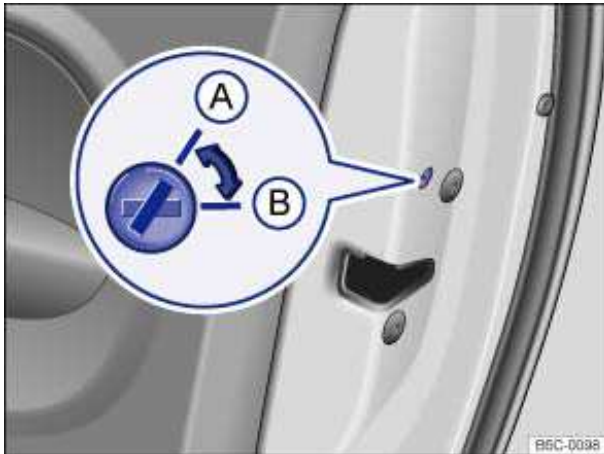

Fig. 131 On the edge of the passenger door: A unlocked, Δlocked.
- Insert the key bit into the slot and turn to the locked position ⇒ fig. 131 \(B\).